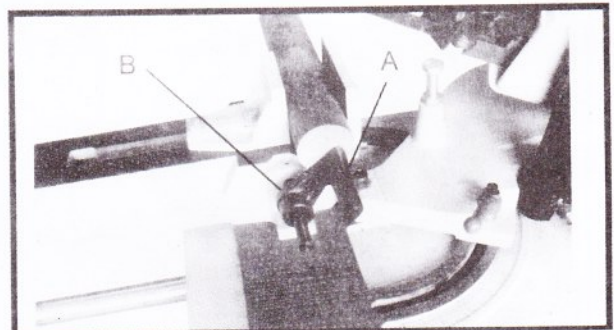

Fig. 14
The stock stop is used when more than one piece is to be cut to the same length. Position the stock stop block (A) Fig. 14, the desired distance away from the blade. It is good practice to have the work contact the stop at the bottom of the work, as shown. The stop may be repositioned in or out by loosening set screw (B) and moving the stop accordingly. When not using the stock stop, rotate the stop below the table surface.